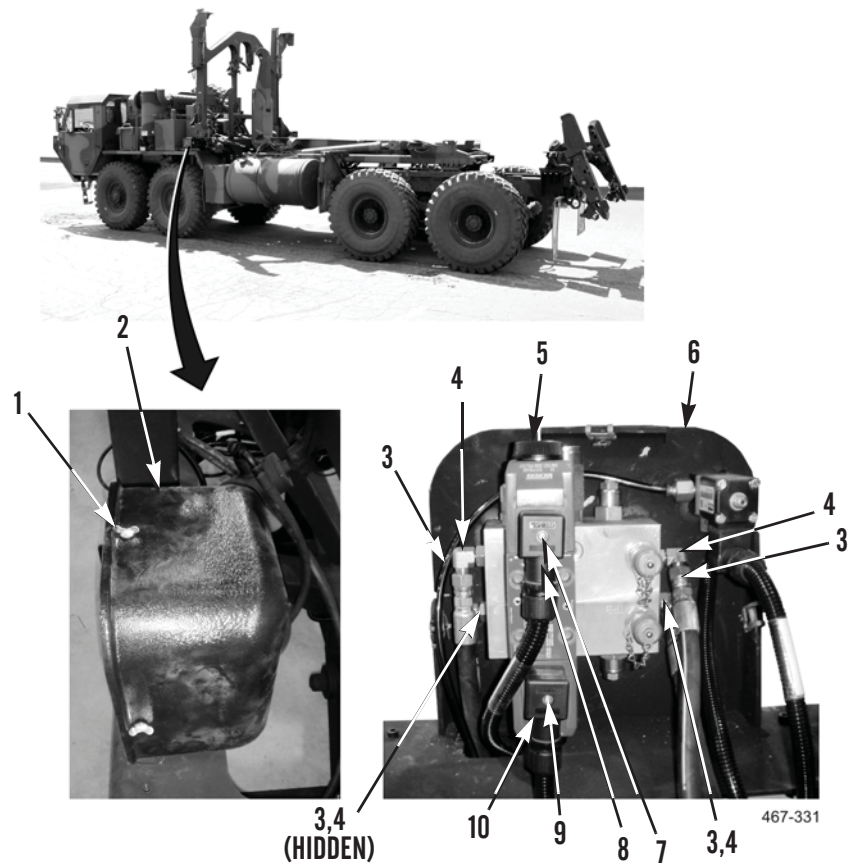

Figure 1. Manifold.
1. Loosen three wing bolts (Figure 1, Item 1) and remove manifold cover (Figure 1, Item 2) from mounting bracket (Figure 1, Item 6).
2. Disconnect four hydraulic hoses (Figure 1, Item 3) from fittings (Figure 1, Item 4).
3. Loosen screw (Figure 1, Item 7) and remove unstow harness (Figure 1, Item 8) from valve (Figure 1, Item 5).
4. Loosen screw (Figure 1, Item 9) and remove stow harness (Figure 1, Item 10) from valve (Figure 1, Item 5).